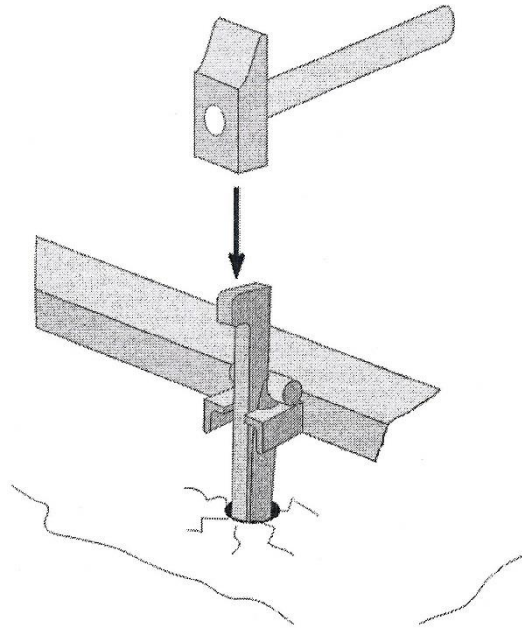

Figure 21
6. Apply a few hammer blows to the head of the pin which enters the hole and frees the conical pin, thus permitting removal of the fixing pin and the track to be freed (Figure 21)